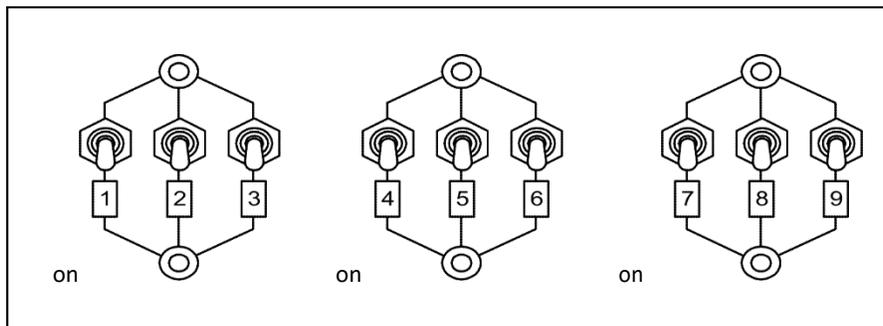

FIGURE 1.8 VARIABLE PASSIVE LOAD MODULE
Every load module contains nine single elements (each one in series with a toggle switch) grouped in identical sections of three elements each. If the toggle switch is open (down position) then the element is not connected, if it is closed then the element is connected across the terminals as shown in the Figure 1.8. If you toggle two or all the switches in one section, the elements will be paralleled connected.
- Step 1: Check the construction of the Resistance Module EMS 8311 shown in Figure 1.8 and realize that the resistance is in series with the toggle switch S.